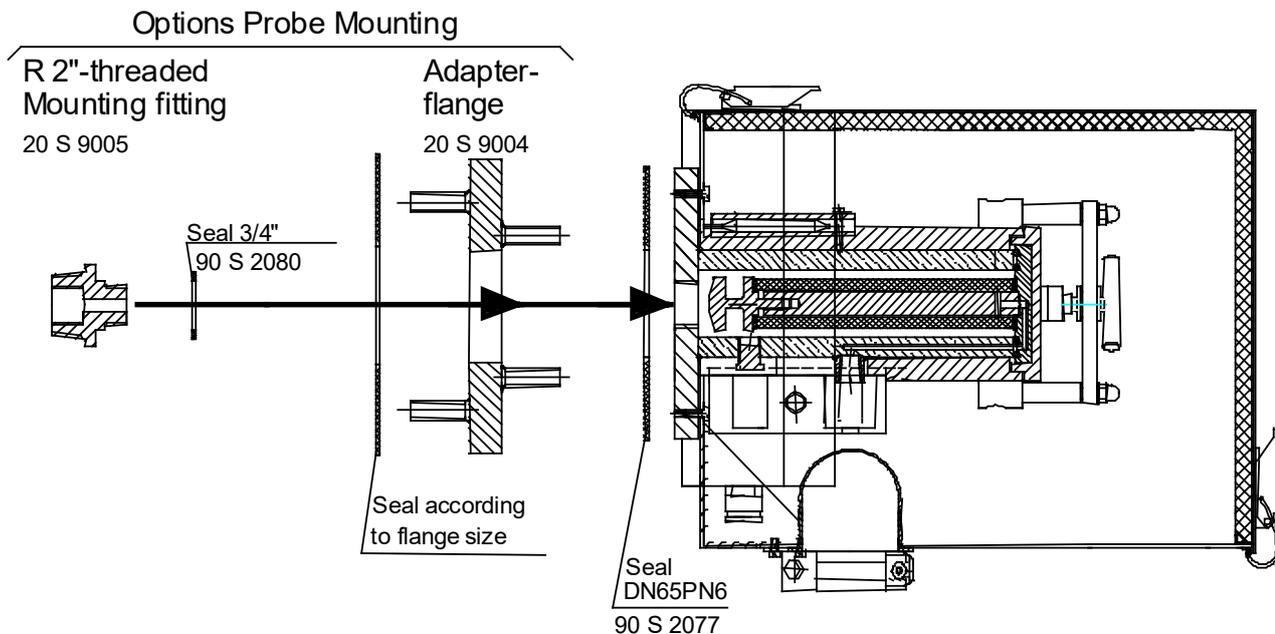

Figure 2 Mounting possibilities
- Put the flange seal ① between the sample flange and the probe flange.
- In case the heated sample tube type **SP30/35** or the ceramic pre-filter type **V12..** are used, you must screw first the probe with its flange ② (with threaded bolt welded inside). Here too, the flange seal has to be put between both flanges.
- If the flange on the bleeder connection does not correspond to the standard flange connection DN65 PN6, please use the optionally delivered adapter flange (figure 2) and mount it the same way to the probe.
- The sample tube or the pre-filter ③ with thread G^{3/4}"a are to be screwed into the G3/4" inside thread in the flange of the probe either directly or together with an extension tube ④ and the flat seal 3/4" and tighten.